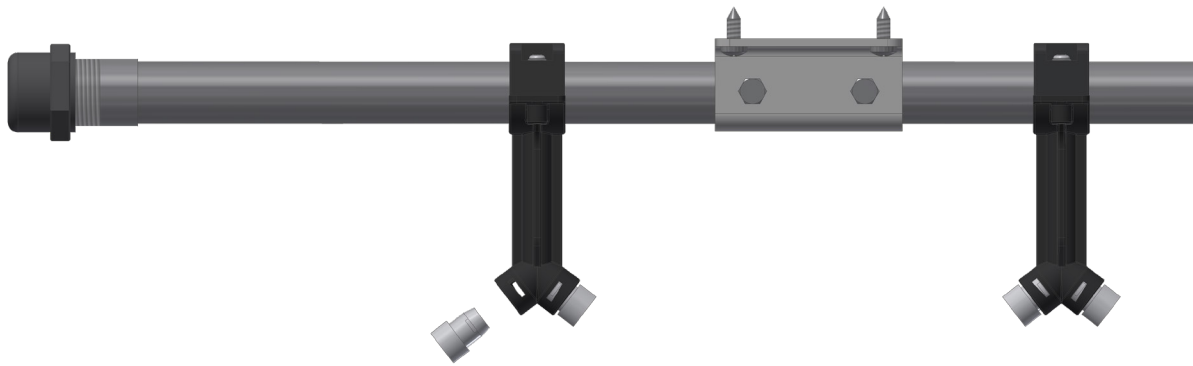

Figure 7.9 Nozzles on chemical ramp.
1. Remove the nozzle by turning it $\frac{1}{4}$ turn anticlockwise (see Figure 7.9).